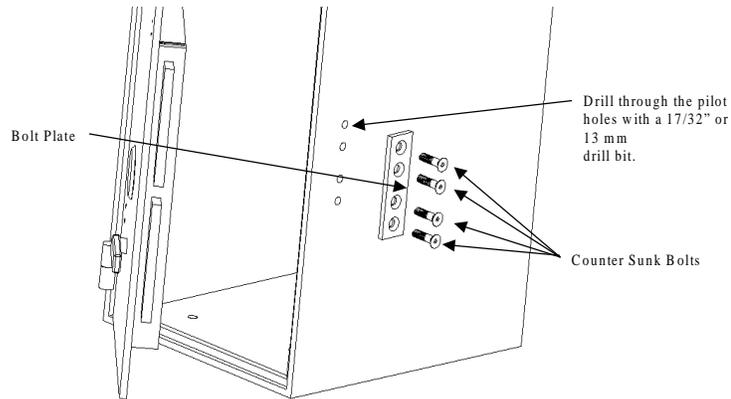

Figure 3. Attaching the Bolt Plate.
- Once the pilot holes are drilled, drill the holes again with the 17/32" or 13mm drill bit. See Figure 3.
- Align the bolt plate with the four mounting holes on the cabinet. Make sure the counter sunk holes are facing out. Insert a 1/2"-13 x 2" long counter sunk Allen head bolt through each of the holes on the bolt plate and into the side of the cabinet. See Figure 3.